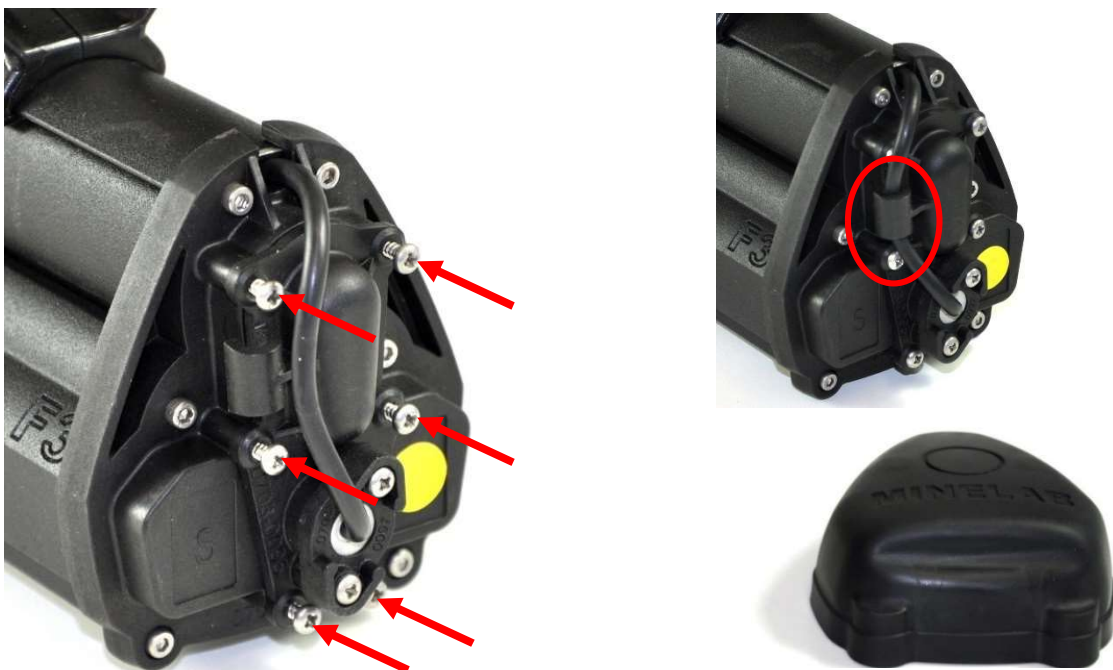

Figure 57: Attaching the Cover Bulkhead and routing of Wiring Loom
- Attach the bulkhead cover with six screws. Route the wiring loom under the cable router on the side of the bulkhead cover. Shown in Figure 57.